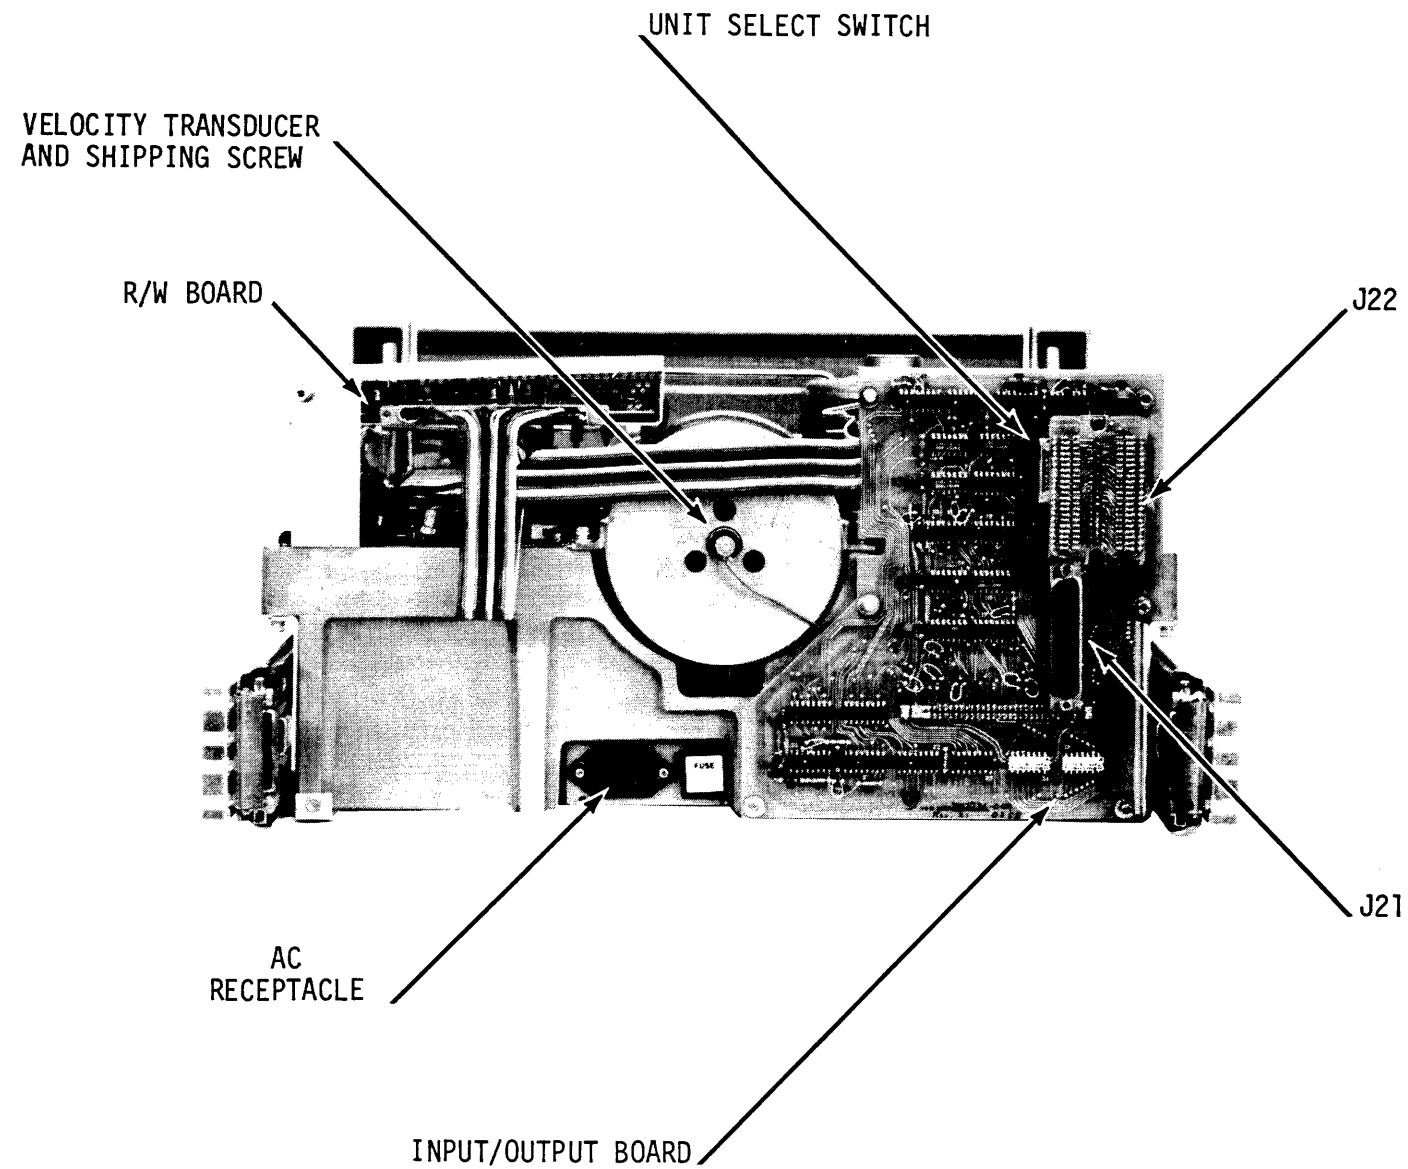

Figure 2-5. Carriage Holddown Screw
- c. Remove the carriage holddown screw and flag (Figure 2-5).